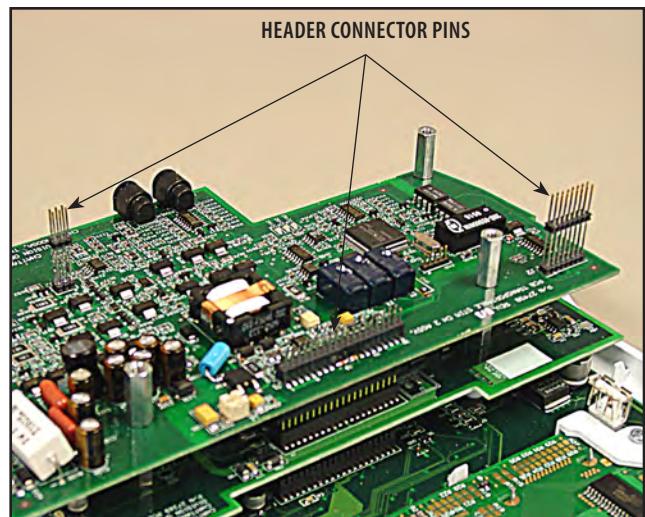

FIGURE 6.11
3. Carefully lift the Channel 1 Stim Board from the unit. Make certain not to bend any of the Header Connector Pins on the board below during removal. See Figure 6.11.
4. Replace Channel 1 Stim Board in reverse order of preceding steps. Make certain all Header Connector Pins are properly engaged. See Figure 6.11.